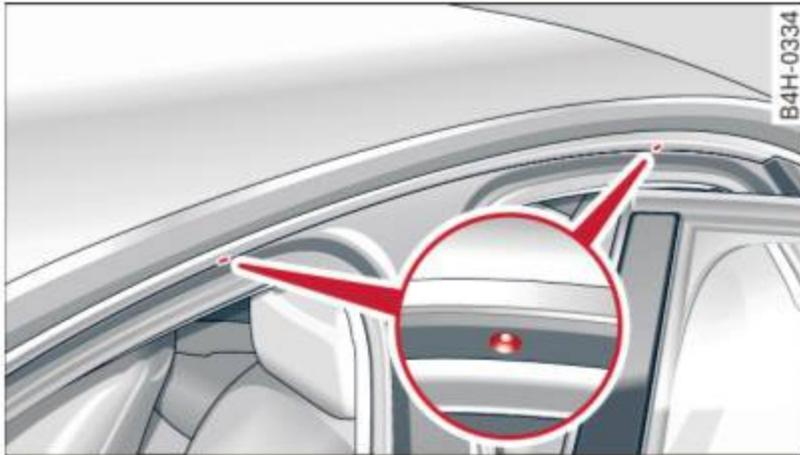

Fig. 72 Sedan: Roof rack attachment points
- When installing the roof rack, make sure it is only mounted on the designated locations on the roof ⇒ *fig. 72* or ⇒ *fig. 73*.
- Only mount the roof rack on the designated locations on the roof ⇒ *fig. 72*.